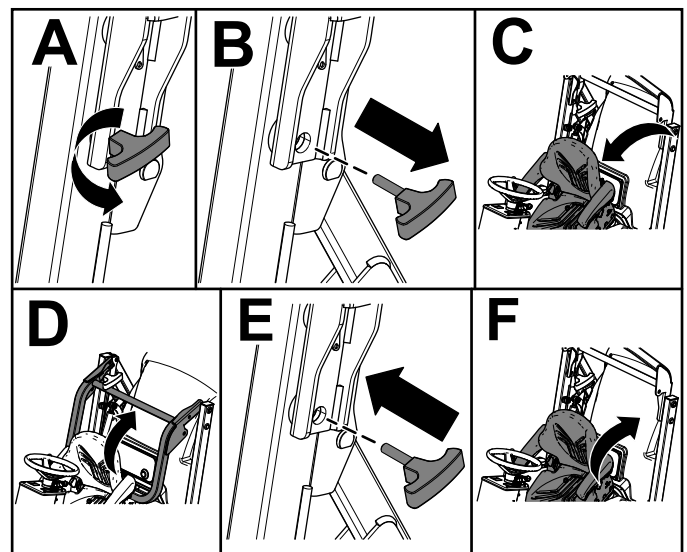

Figure 16
4. Tilt the seat forward (Figure 16).
5. Remove the knob pins from the roll bar (Figure 16).
6. Raise the roll bar and secure it in place with the knob pins (Figure 16).
7. Tilt the seat rear to the locked position (Figure 16).